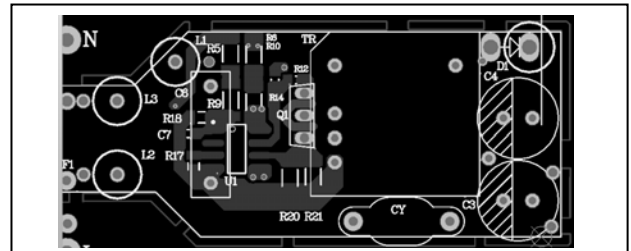

Figure 15 Typical PCB Top Layer
- (1) As Figure 15 and 16 shows, components such as C7, R17, R18, R20, R21, R22, R23, C9 etc. which are connected to the IC should be mounted as close to the IC as possible.
- (2) Bypass capacitors should always be mounted as close to the IC as possible.
- (3) Switching signal traces should be kept as short as possible and not be routed parallel to one another so as to prevent coupling.